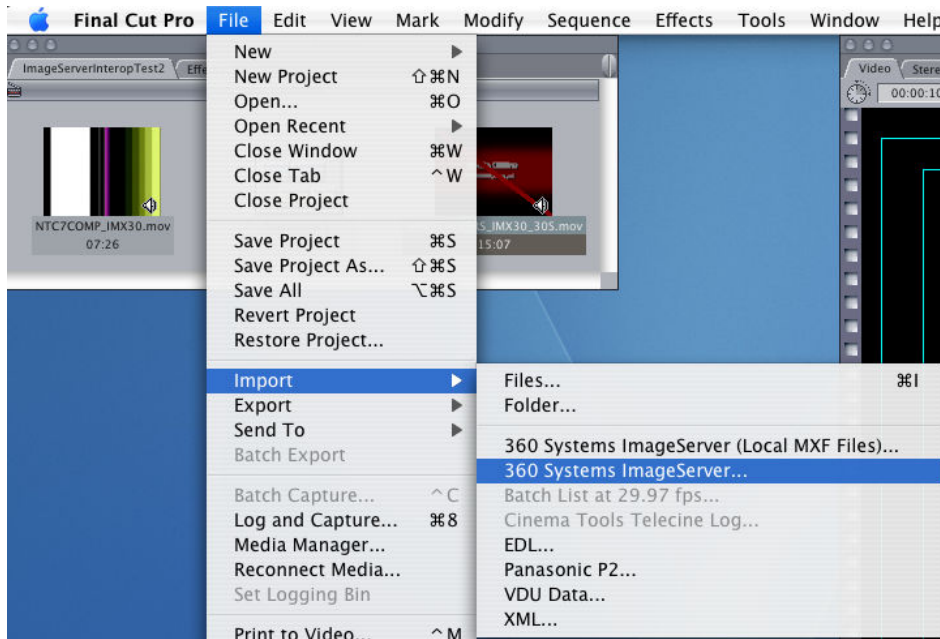

Figure 1 – File Import Menu
- Select File->Import->Image Server per Figure 1